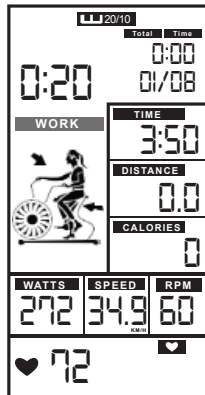

Figure 29
- 3 Cycle time counts down from 10 to 0 and WORK flashes once per second . Meantime REMAINING will light up and count down from 4 minutes. Then TOTAL TIME, DISTANCE, CALORIES, WATTS, SPEED & RPM start calculating, counting displays '01/08'(Figure 29)